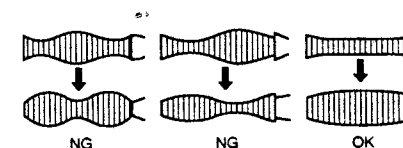

Fig. 7-3-7 Abnormal waveform variation
7. If the envelope varies like NG figures as shown in Fig. 7-3-7, perform the adjustment again.